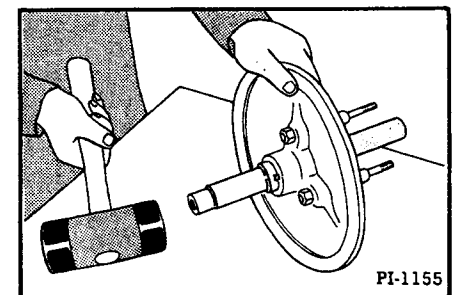

Fig. 49 Driving Shaft Into Sheave
1. Tap the shaft into the tapered bore on the fixed half of the sheave (Figure 49). Be sure the key is being included in the assembly.